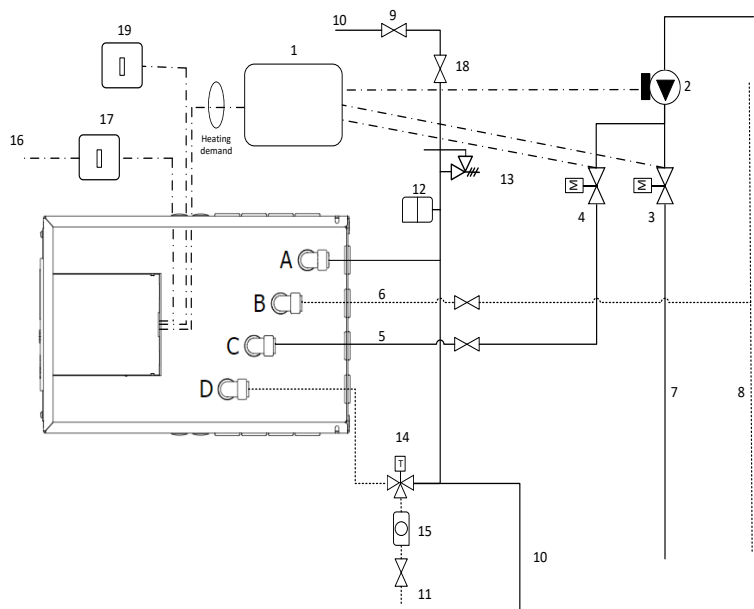

Figure 12.1: Example Wiring Option 1 Schematic (see Figure 3 for piping and electrical options available)
- Run and connect 3 Core mains power supply cable (16A, minimum 2.5mm2 CSA) from the local 2-pole isolator to the Heat Battery controller (Figures 12.1 and 12.2).